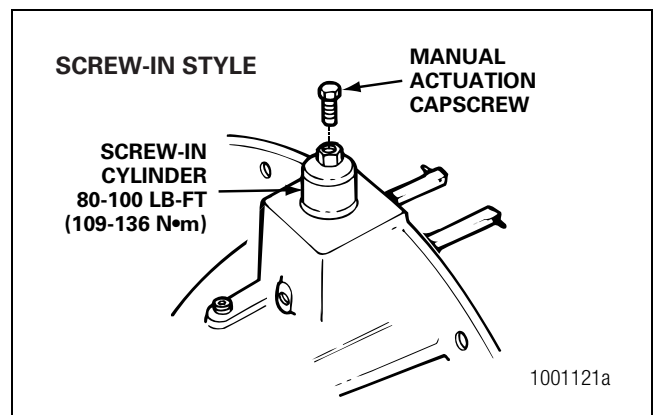

Figure 6.16
7. Screw the DCDL cylinder in place. Tighten the cylinder to 80-100 lb-ft (109-136 N•m). Figure 6.16.